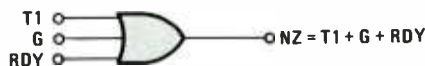

Fig. 9. Oring of variables is indicated with plus signs. Note the three inputs.
**OR Function.** The logical OR is indicated by placing a plus sign between the variables. That is illustrated with the three-input OR gate shown in Fig. 9.